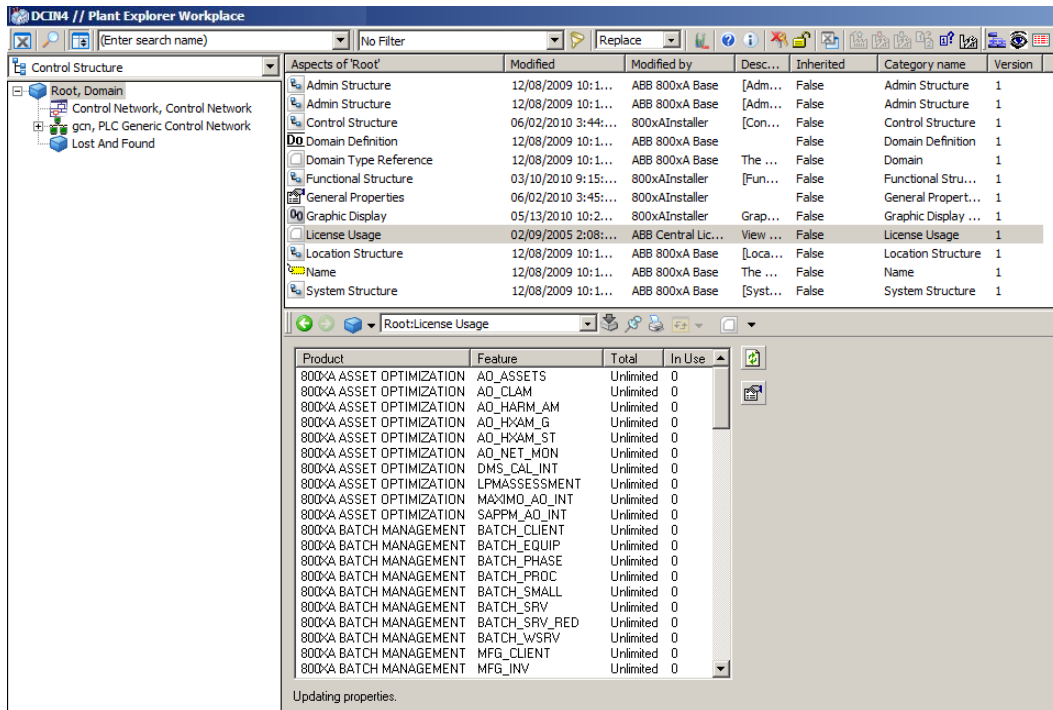

Figure 1. License Usage Aspect
- The License Usage aspect appears in the Preview Area as shown in Figure 1. It shows a list of license features and the current usage.